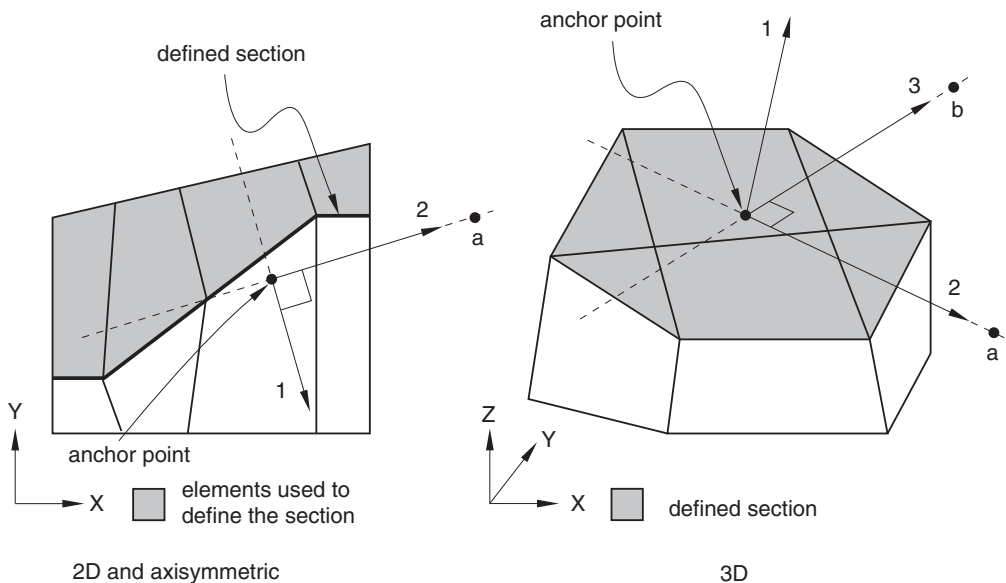

Figure 1: User-defined local coordinate system.
1. Node number used to specify point *a* in Figure 1 (blank if coordinates given).